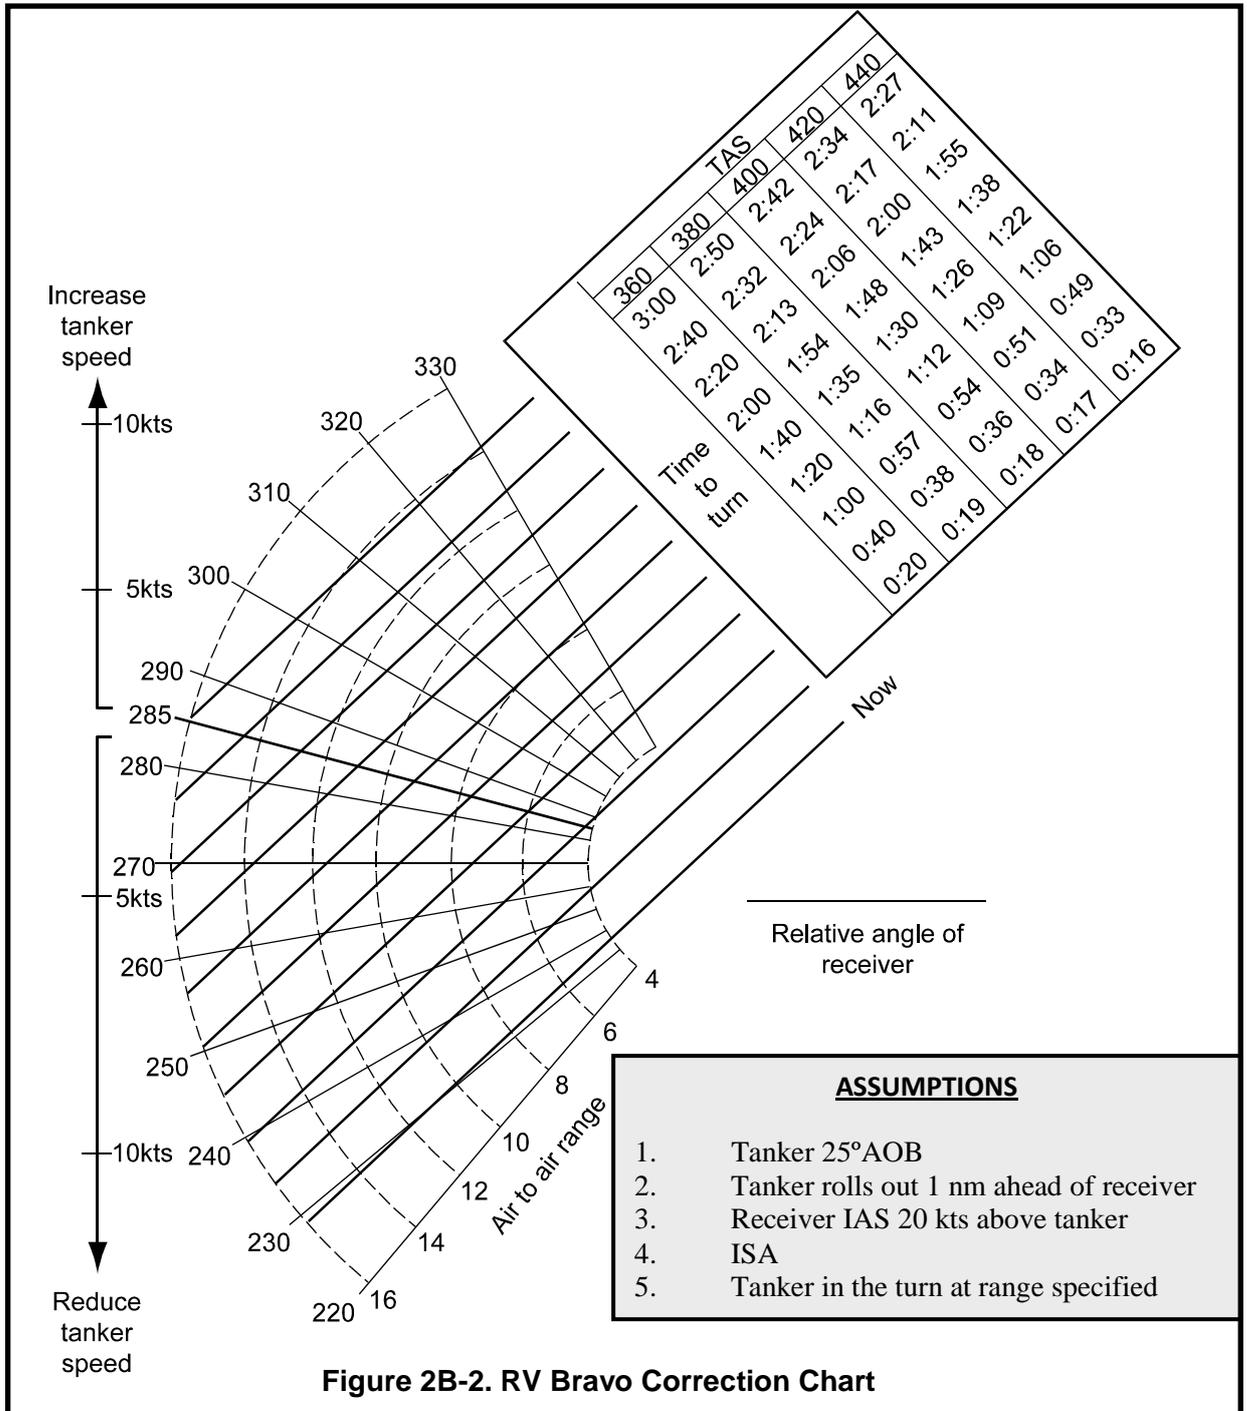

Figure 2B-2. RV Bravo Correction Chart
- a. **Track Requirements.** A reciprocal head-on approach without lateral displacement is set up. To give sufficient time to correct any heading error, a minimum initial head-on separation of 100 nm is desirable. See Figure 2B-1.
- (1) The tanker flies at the indicated refuel speed for the receiver. This speed is available in the appropriate National SRD, through the SPINS or arranged between the tanker and receiver on the ground or in the air prior to AAR.
- (2) The tanker translates the indicated refuel speed into TAS for the RV altitude (Chapter 2 Annex 2D, Tables 2D-1 and 2D-2), applies it to the appropriate AOB table (Table 2B-1) and calculates the turn range.
- (3) The receiver should normally fly the procedure at the tanker's speed (KIAS) plus 20 kts.
d. **Transmission for Direction Finding (DF)**
- (1) On roll-out, the tanker is to take a bearing on the receiver using DF or other suitable equipment, obtain a range using A/A TACAN and start a stop-watch.
- (2) These figures are plotted on the chart at Figure 2B-2 to obtain a time to run to the final turn onto the receiver's heading.
- (b) However, if the bearing is other than 285°, using Figure 2B-2 the tanker must adjust speed to re-establish the ideal RV geometry.